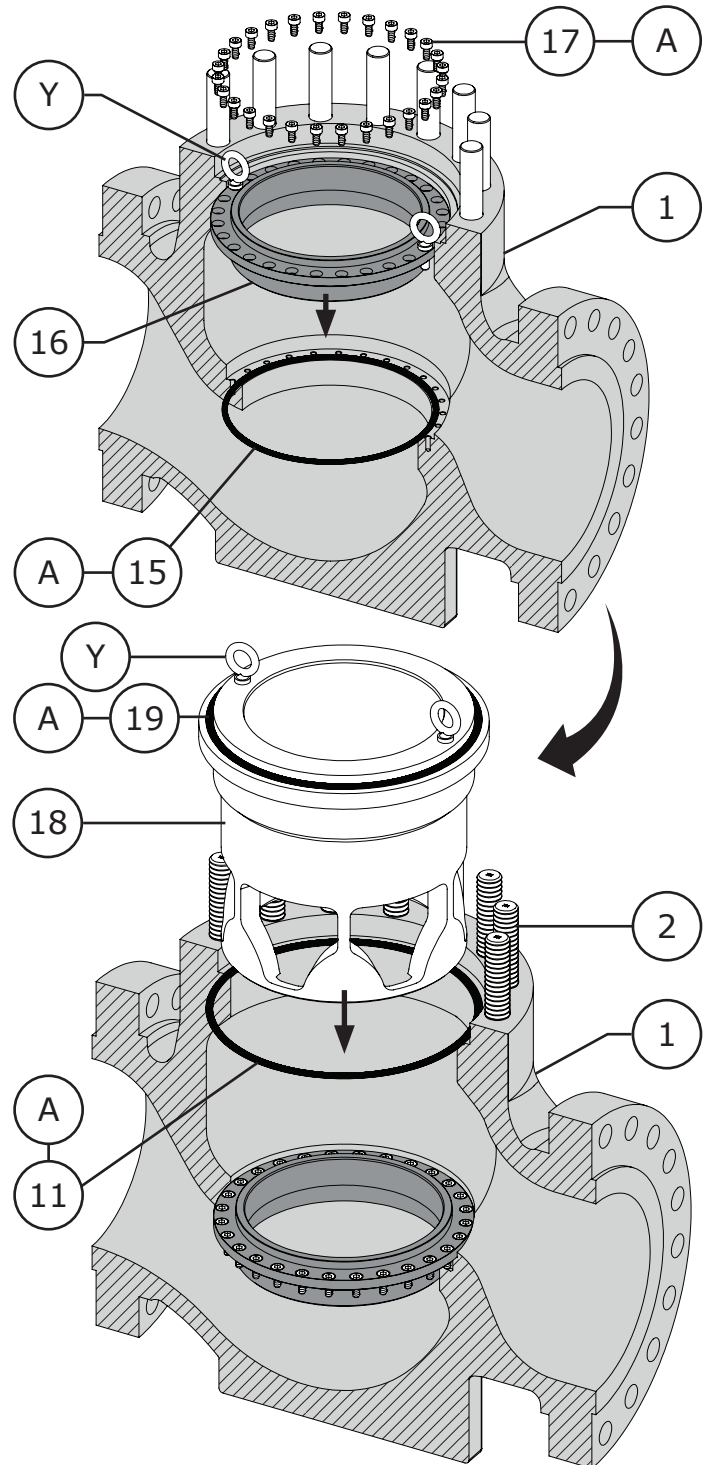

Figure 23 Trim Parts Assembly - 371 (Steps 1 - 6)
- 1 Apply anti-seize compound (Key A) to the top and bottom surfaces of the seat ring gasket (Key 15). Install the seat ring gasket as shown in Figure 23.
- 2 Install lifting bolts (Key Y) to the tapped holes of the seat ring (Key 16). Using the lifting bolts, carefully lift and lower the seat ring into the valve body as shown in Figure 23. Remove the lifting bolts once the seat ring is in position.
- 4 Apply anti-seize compound (Key A) to the top and bottom surfaces of the cage gasket (Key 11). Install the cage gasket as shown in Figure 23.
- 5 Install lifting bolts (Key Y) into the tapped holes of the cage (Key 18). Using the lifting bolts, carefully lift and lower the cage into the valve body (Key 1) as shown in Figure 23. Remove the lifting bolts once the cage is in position.
- 6 Apply anti-seize compound to the top and bottom surfaces of the bonnet gasket (Key 19). Install the gasket as shown in Figure 23.